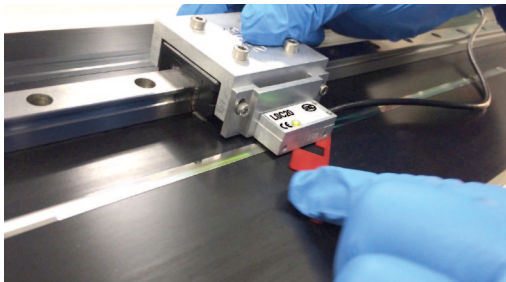

Fig. 6:
4. Carefully remove the shim by rotating it off the scale with the shim's handle Fig. 6.